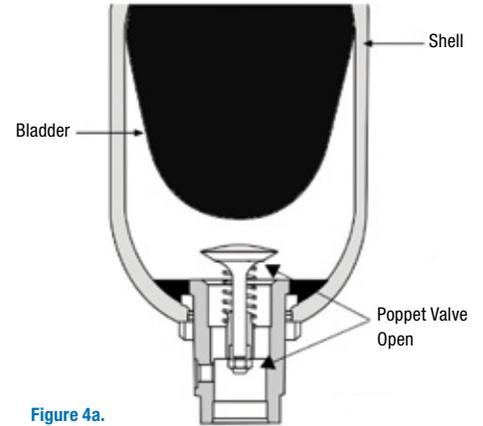

Figure 4a.
**B.** Check to make sure that the poppet valve located in the Fluid Port is fully in the open position. (see Figure 4a.)